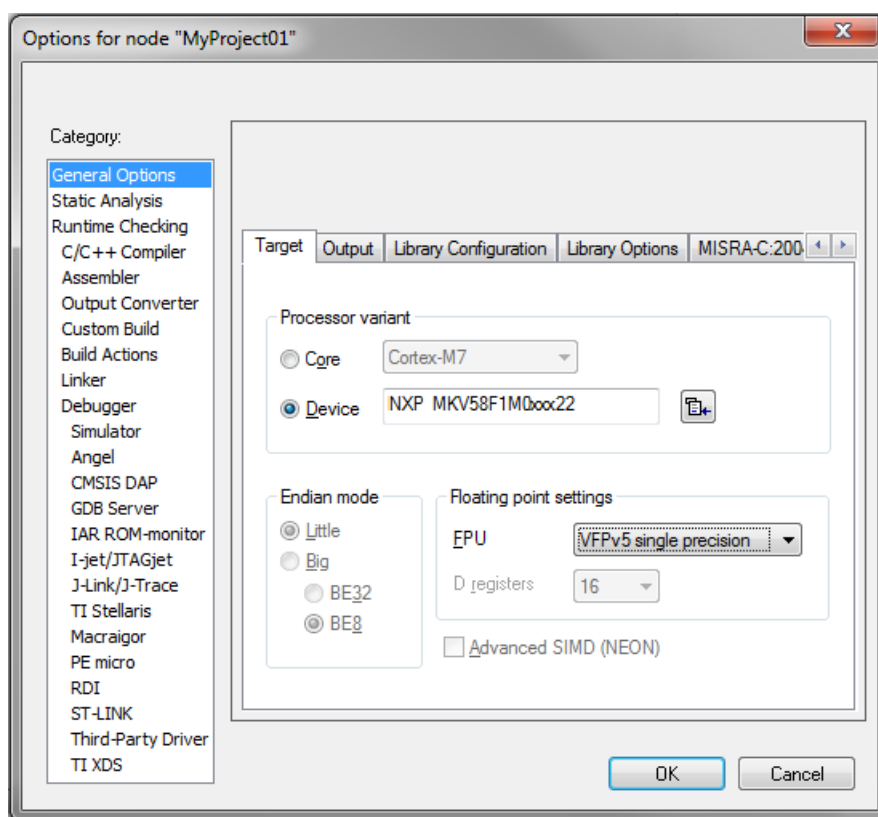

Figure 1-29. Options dialog
6. In the Target tab, select the Device option, and click the button next to the dialog to select the MCU. In this example, select NXP > KV5x > NXP MKV58F1M0xxx22. Select VFPv5 single precision in the FPU option. Click OK. See Figure 1-29.